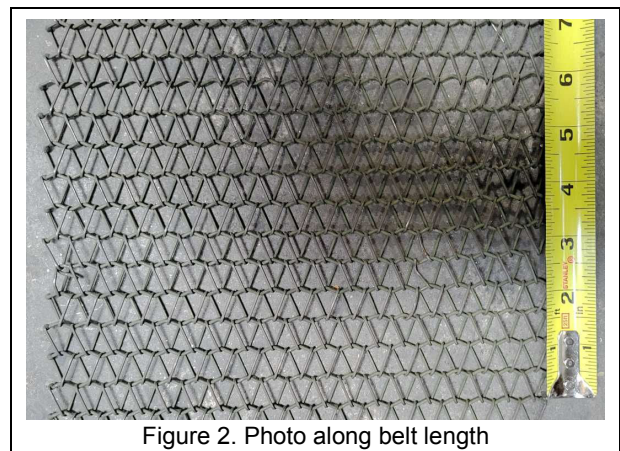

Figure 2. Photo along belt length
2. Take a clear photo with an inch tape measure showing 6 to 12 inches of belt length (Figure 2).